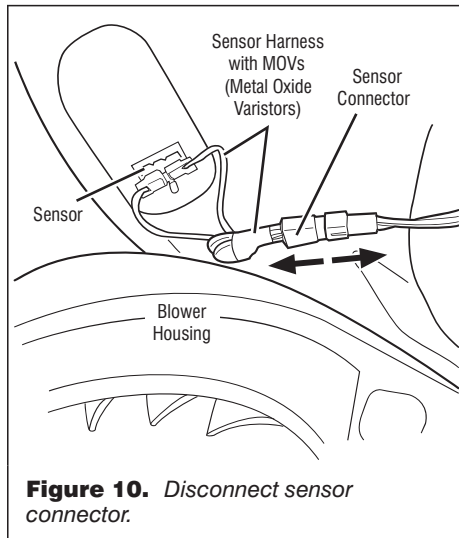

Figure 10. Disconnect sensor connector.
- ➔ Disconnect the sensor connector. See figure 10.